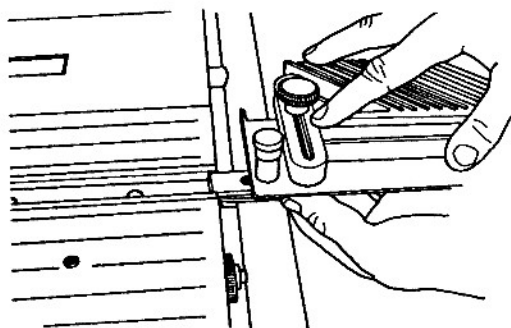

Fig. D-19
1. Loosen the knobs and slide the front T-nut in the miter slot, as seen in Fig. D-19. Then slide the other T-nut in the miter slot.